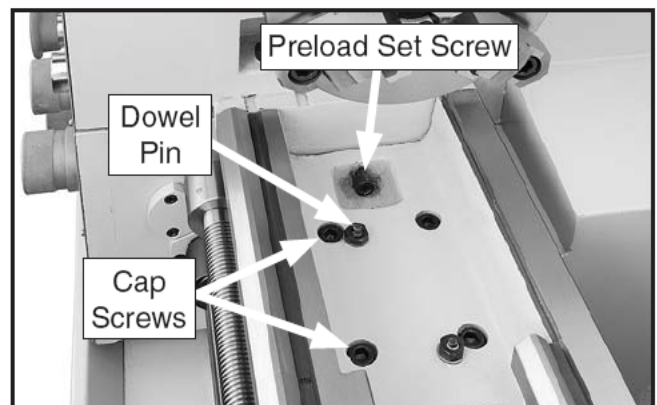

Figure 70
2. Loosen the preload set screw a few turns until it no longer contacts the headstock (see **Figure 70**).